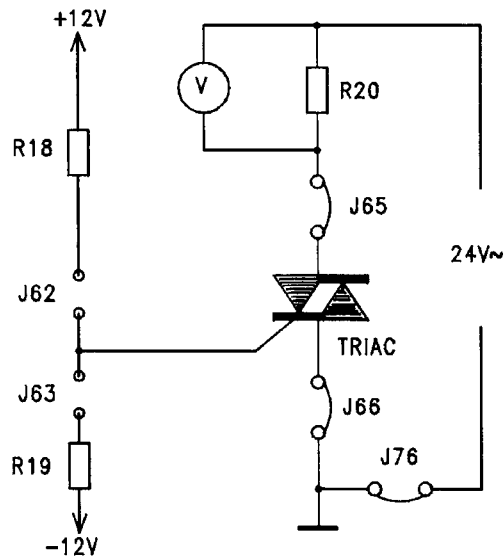

fig.B12.16
- Connect jumpers J65, J66, J76 to produce the circuit of fig. B12.16